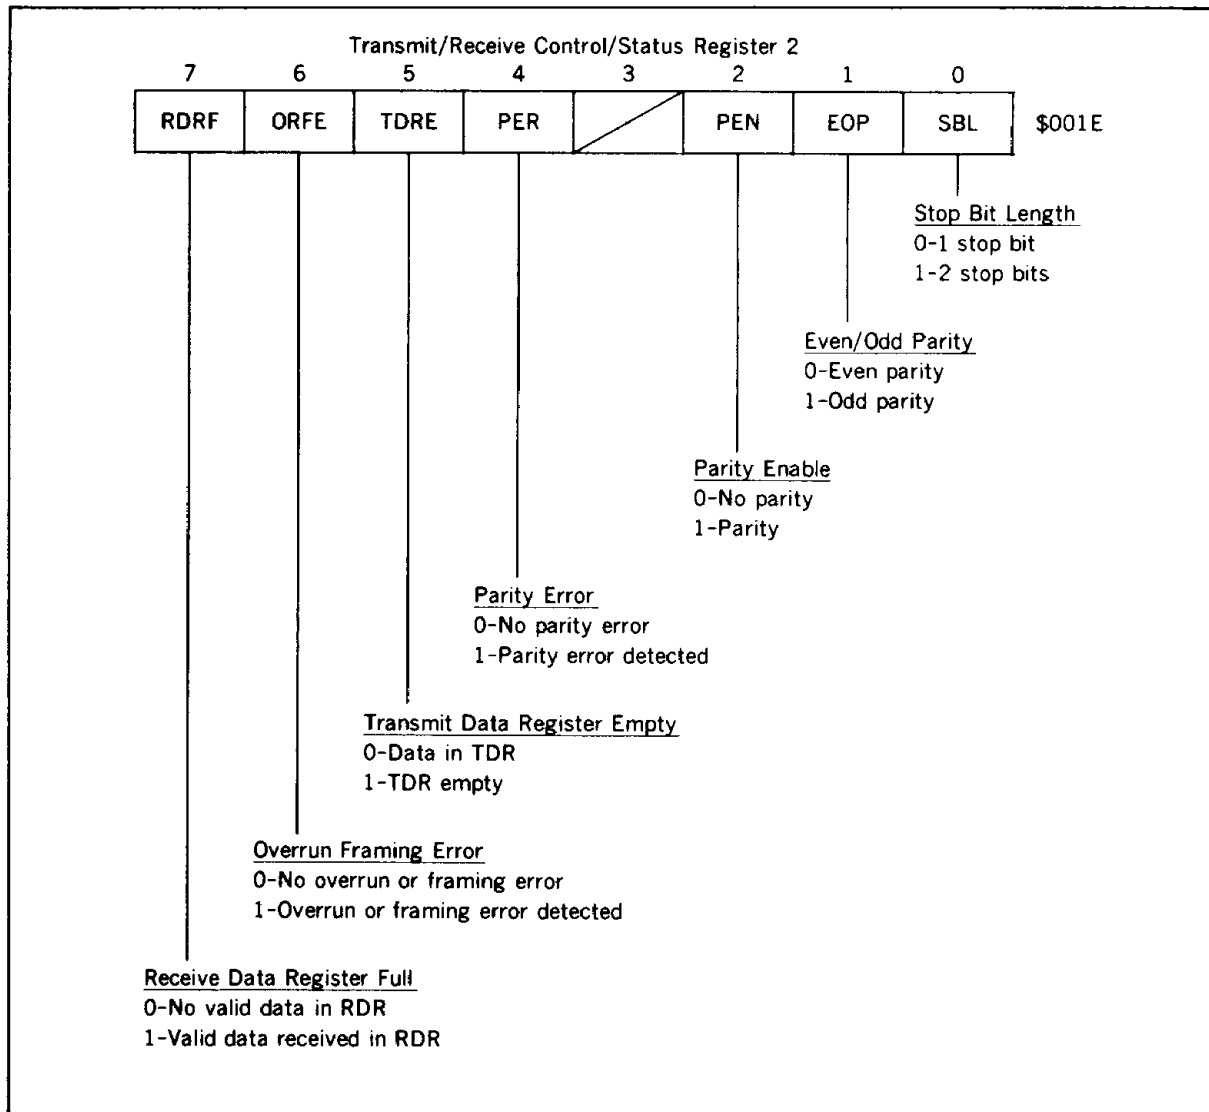

Figure 35. Transmit/Receive Control/Status Register 2
**Transmit/Receive Control/Status Register 2** : Transmit/receive control/status register 2 (TRCSR2: \$001E; figure 35) has seven readable bits, the lower three of which can also be written to.